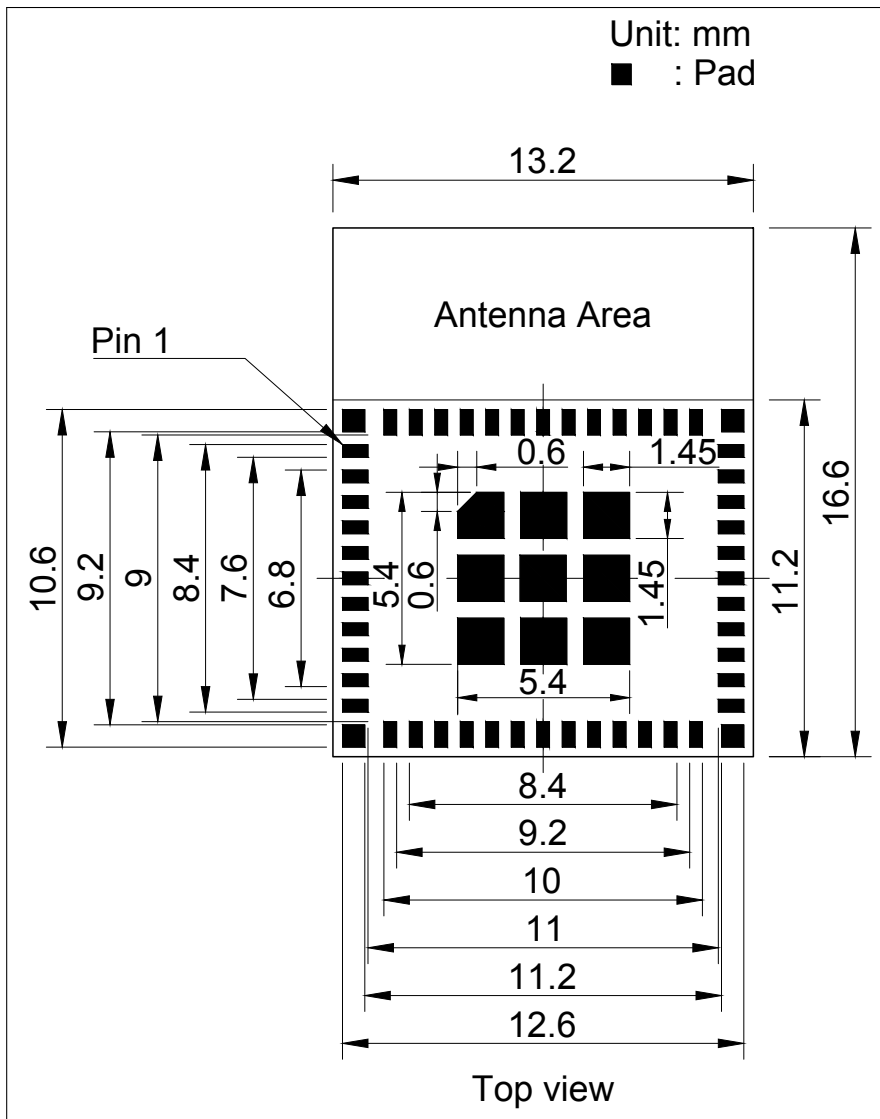
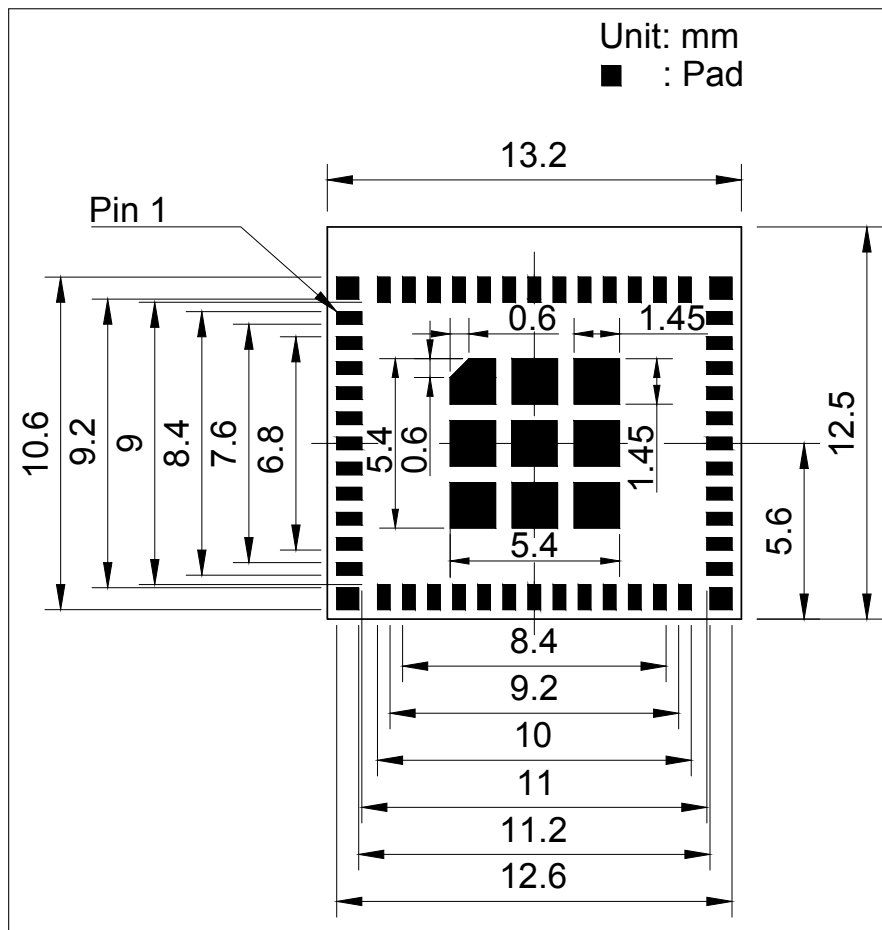

Figure 10: ESP32-C3-MINI-1 Recommended PCB Land Pattern
Figure 11: ESP32-C3-MINI-1U Recommended PCB Land Pattern
- Figures for recommended PCB land patterns with all the dimensions needed for PCB design. See Figure 10 *ESP32-C3-MINI-1 Recommended PCB Land Pattern* and Figure 11 *ESP32-C3-MINI-1U Recommended PCB Land Pattern*.
- Source files of recommended PCB land patterns to measure dimensions not covered in Figure 10 and Figure 11. You can view the source files for ESP32-C3-MINI-1 and ESP32-C3-MINI-1U with Autodesk Viewer.